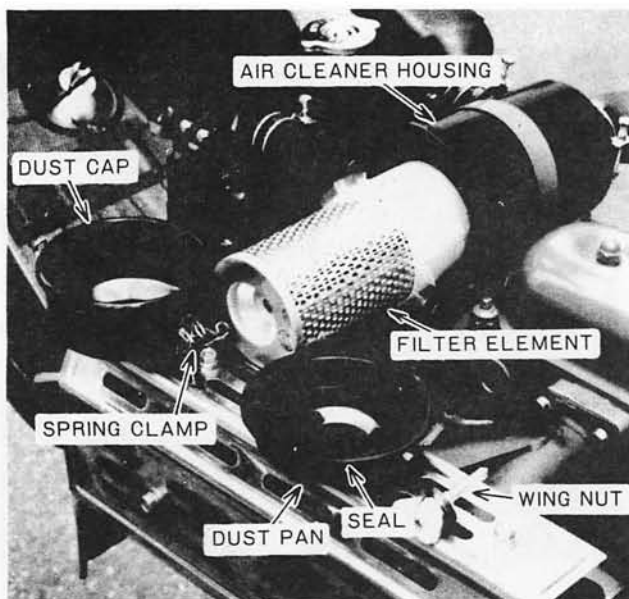

Figure 29 — Air Cleaner — Disassembled
2. Remove seal and dust pan from dust cap and clean dust cap, seal and dust pan using a damp lint free cloth, Figure 29.